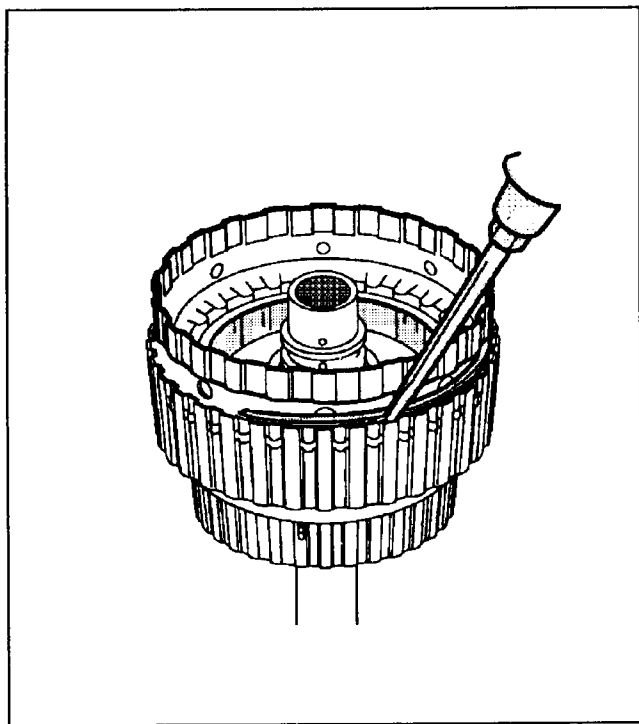

Figure 73
1. Using a small screwdriver, remove the snap ring that retains the clutches in the K1 drum (See Figure 73).